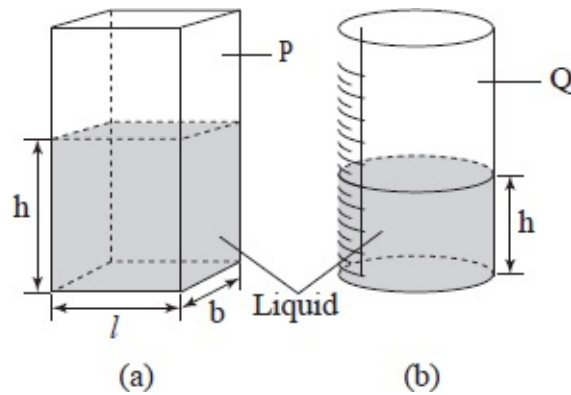

Fig. 2.10: Relationship between volume and height
- Take two containers P and Q with rectangular base and cylindrical base respectively. Container Q is calibrated, see figure 2.10 (a) and (b).
2. Describe how you would calibrate the cylinder Q in figure 2.10.